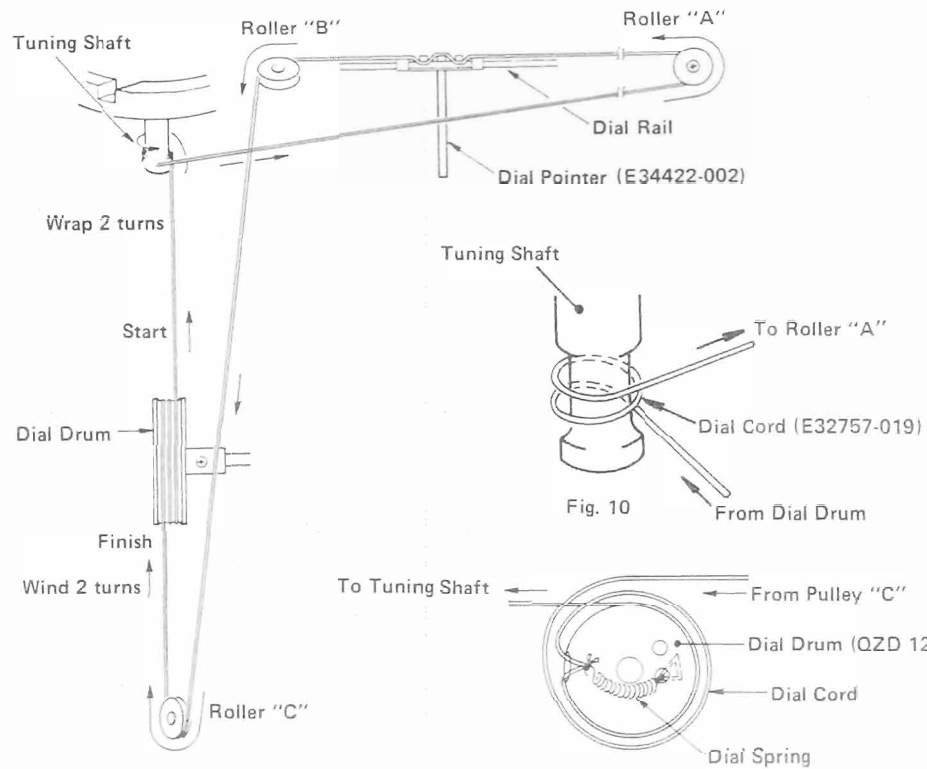
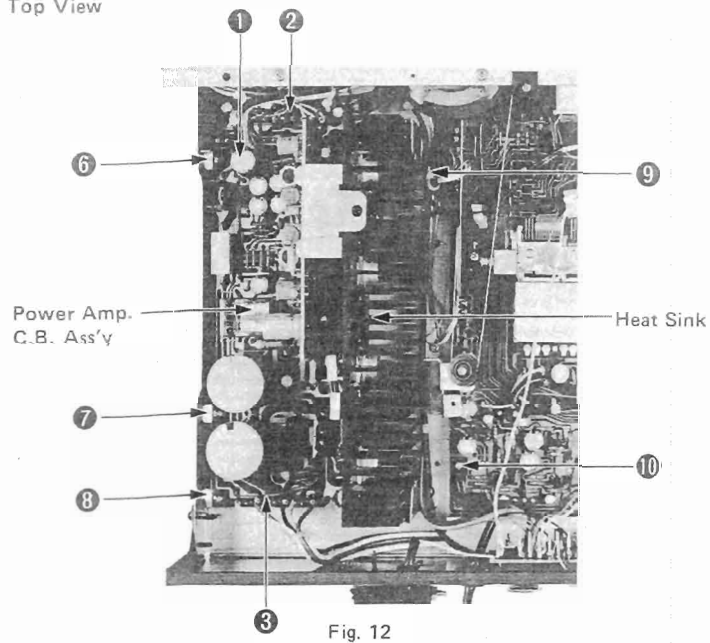

Fig. 11
Fig. 12
Note: Refer to Fig. 11 of the dial stringing procedure on page 7 when replacing the dial pointer onto the dial rail.
- (1) Remove heat sink and power supply amp. C.B. ass'y, see Figs. 12 & 13.
- (2) Remove dial pointer and old dial cord.
- (3) Tie end of new dial cord to one end of dial spring, connect other end of dial spring of bottom right eye inside dial drum, see Fig. 11.
- (4) Rotate the tuning capacitor dial drum to its maximum clockwise.
- (5) Run the dial cord through the slot in the rim of the dial drum.
- (7) Guide the dial cord under and around roller "A", around rollers "B" and "C". Keep the dial cord taut during this procedure.
- (8) Guide the dial cord over the dial drum and wind 2 turns counterclockwise. See Fig. 11.
- (9) Turn the tuning shaft to rotate the dial drum fully counterclockwise and fully clockwise to distribute the tensioning along the dial cord.
- (10) Place the dial cord over and under the tabs on the rear of the dial pointer (see detail) and place the pointer on the top of the dial panel rail.
- (11) Turn the tuning shaft clockwise. Slide the dial pointer to zero (0) calibration marker on the logging scale while holding tuning shaft fully clockwise. Cement the dial pointer to dial cord to prevent slippage. Allow cement to dry thoroughly.